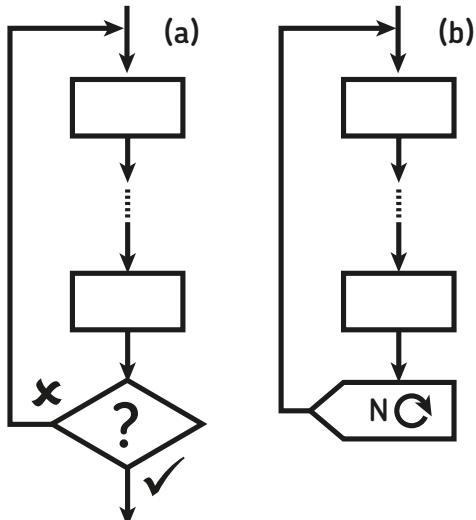
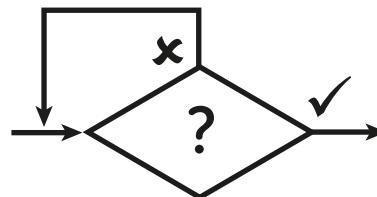

Figure 3-3: A conditional loop (a) and a loop that repeats a sequence N times (b)
Figure 3-4: A waiting loop
Loops repeat a group of actions until a certain condition becomes true. That condition is represented in Figure 3-3(a) as a question mark inside a diamond. In Figure 3-3(b), you can see a loop that repeats a sequence of actions N times: N can be 1, 2, 3, or even infinity, meaning the sequence will be repeated forever. You can also use a loop to do nothing while waiting for a condition to become true, as in Figure 3-4. For example, in the program for the tea-making robot, you told it to wait for the tea temperature to reach 45°C before serving it.
- * Add Wait blocks like the loop in Figure 3-4.